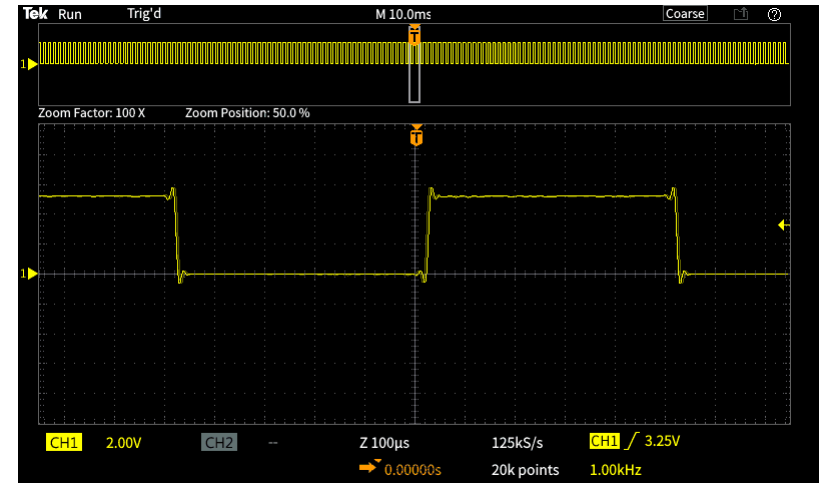

Figure 8. 100x zoom in
5. Turn the **MPK** to change the zoom scale factor from **1X** to **100X**. See the details of the trigger edge (Figure 8).